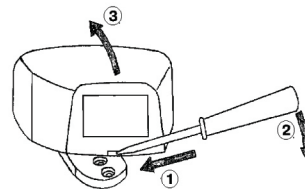

Figure 2
9.1 Insert a flat screwdriver into the clip slit trench in the lower part of the Detector case and depress the clip (See Figure 2).